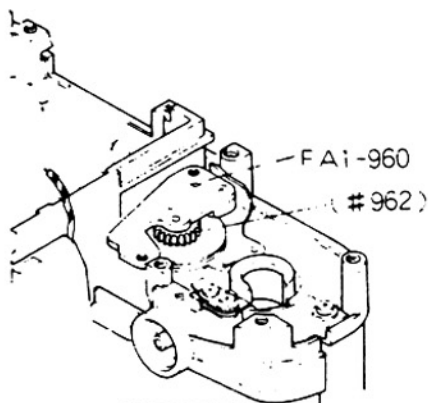

fig. 22-2
- 8) Lead wire #1077, X contact (Gray) (fig. 22-2)
- 2) Brush gear should securely come in contact with Stopper (#666) when the aperture ring is reversed from F/2 to F/1.6. (fig. 22-2)